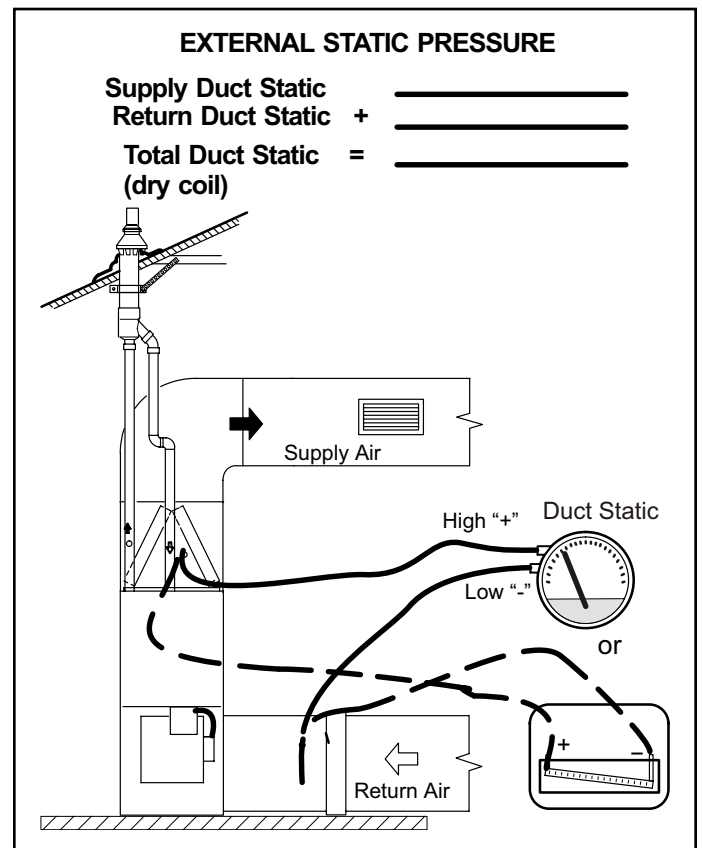

Figure 58.
1. Tap locations shown in Figure 58.